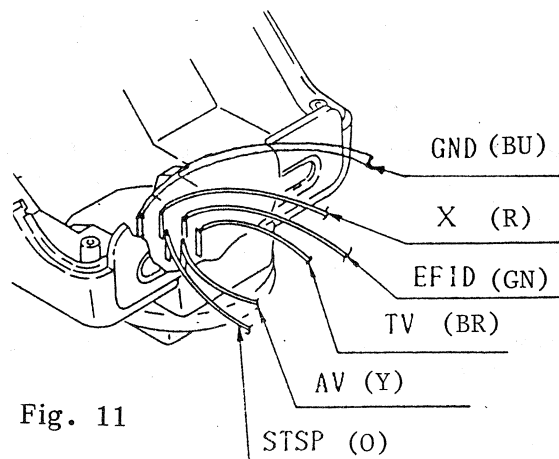

Fig. 11
3.6. To replace the contacts or springs, the lead wires must be unsoldered (Fig. 11).